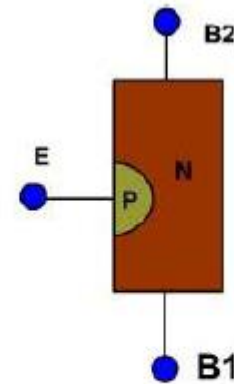

Fig.2 Layered diagram
- ❖ The UJT is made up of an N-type silicon bar which acts as the base as shown in **fig. 2**. It is very lightly doped.